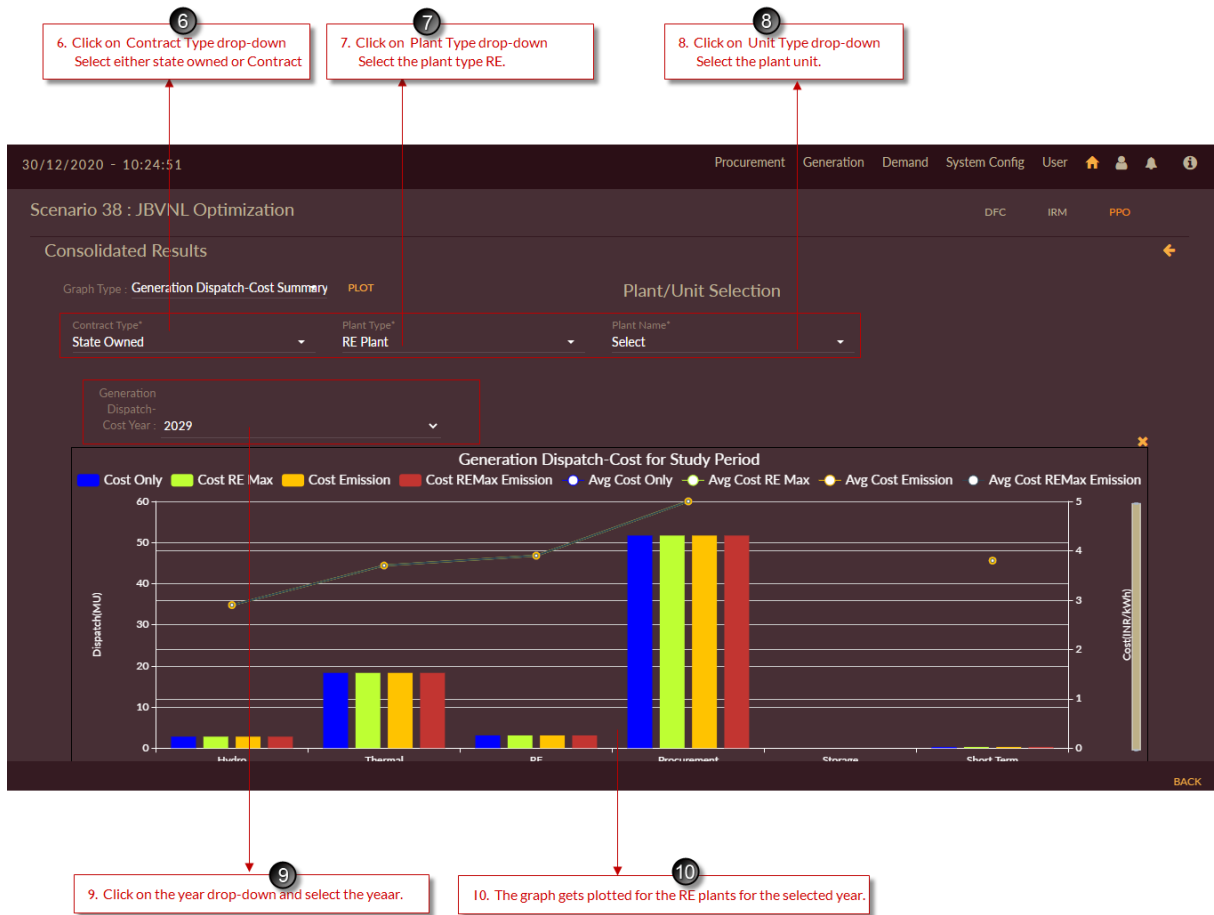

Figure 301. Generation Dispatch Cost Graph - RE Plant
10. The graph gets plotted for the selected year as shown in Figure 301. Generation Dispatch Cost Graph - RE Plant